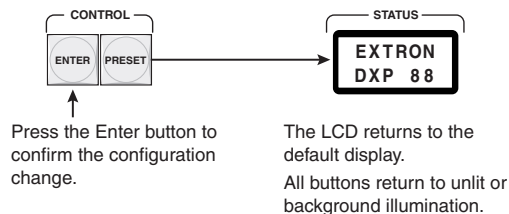

Figure 3-12 — Press Enter
3. Press and release the Enter button (figure 3-12). The input, output, and Enter buttons return to either unlit or to background illumination. The LCD returns to the default display. The current configuration is now defined as input 5 tied to output 1, output 3, output 4, and output 8.